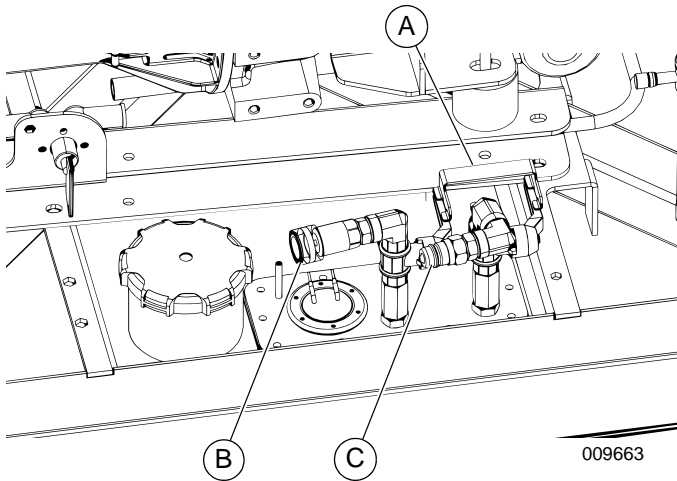

Figure 3-13. Connecting External Fuel Tank
1. See Figure 3-13. Verify exchange lever (A) is in the closed position, as illustrated.